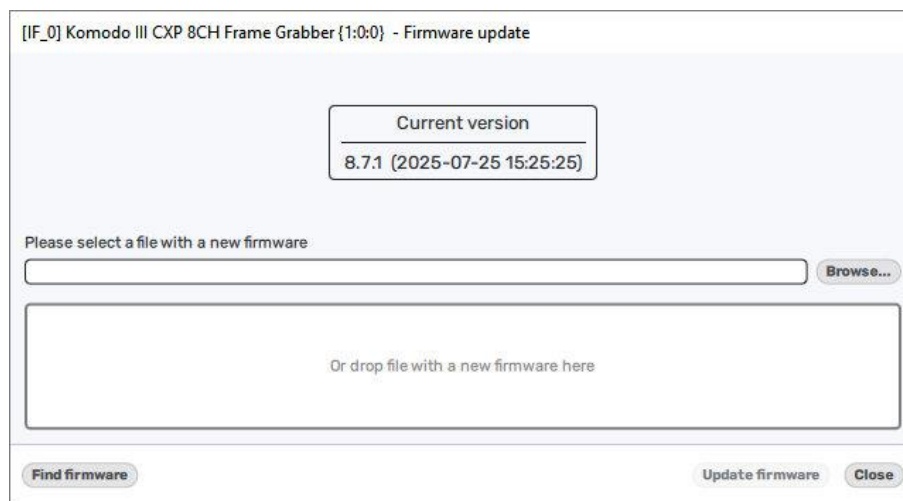

Figure 40 – Firmware update selection
2. Drop the appropriate firmware file for the chosen device into the firmware update window. Or click the Find firmware button, as shown in Figure 40, the browser will open the webpage when the user can find the latest firmware file.